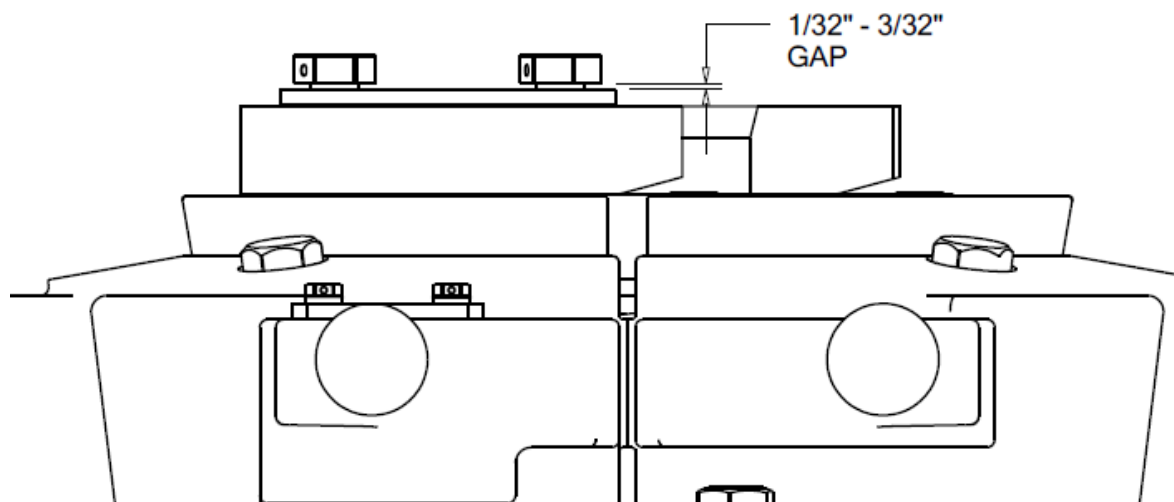

Figure 2
- ▶ Tighten all insert retainer screws. Then tighten the setting plate bolts to the torque value of a minimum of **18 ft-lb.** & maximum of **20 ft-lb.** ensuring there is a **1/32" to 3/32" gap** between the underside of the bolt head and the washer or setting plate retainer. (See Figure 2)